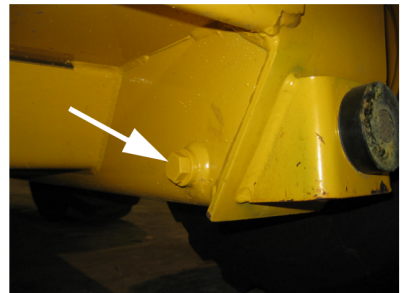

Figure 9 Drain Plug (R190 Shown)
4. **Newer Models:** Remove the combination check/fill/drain check plug on one side at the front of the loader (Figure 9). The oil level should be at the plug level or no more than 1/4 in. (6 mm) below the plug, Check the other side accordingly.
3. At the front of the loader, remove the chaincase drain or combination check/drain/fill plug (Figure 9) on each chaincase and drain the oil into a suitable container.